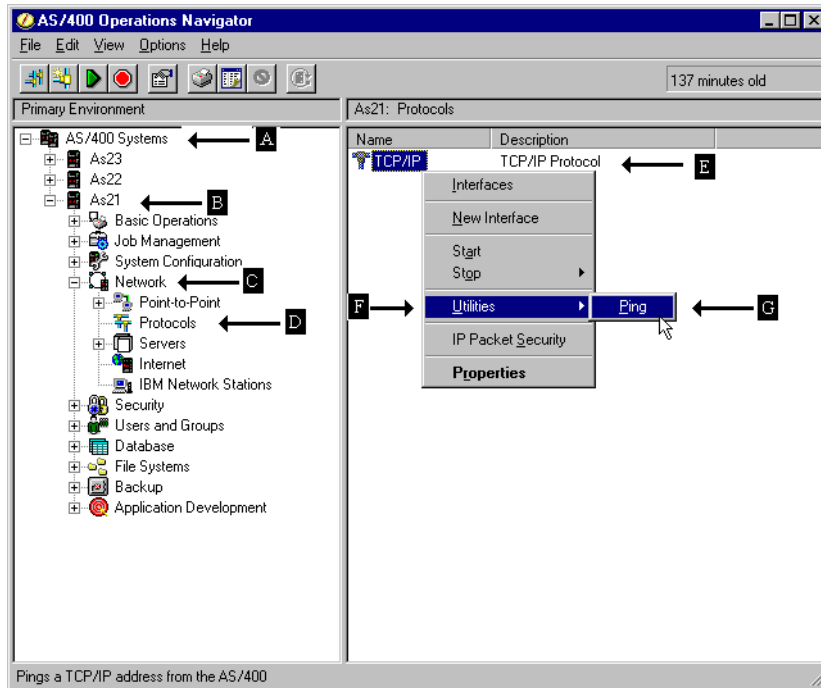

Figure 338. Ping from Operations Navigator
1. Double-click the **AS/400 Systems** icon (A), and it should give you a list of all the AS/400 Systems that you can configure.
2. Double-click **Network** (B).
3. Double-click **Protocol** (C).
4. Select **TCP/IP** (D).
5. Right-click **TCP/IP** to open a context menu (E).
6. Select **Utilities** (F).
7. Select **Ping** (G). Figure 338 on page 558 shows the Ping dialog.